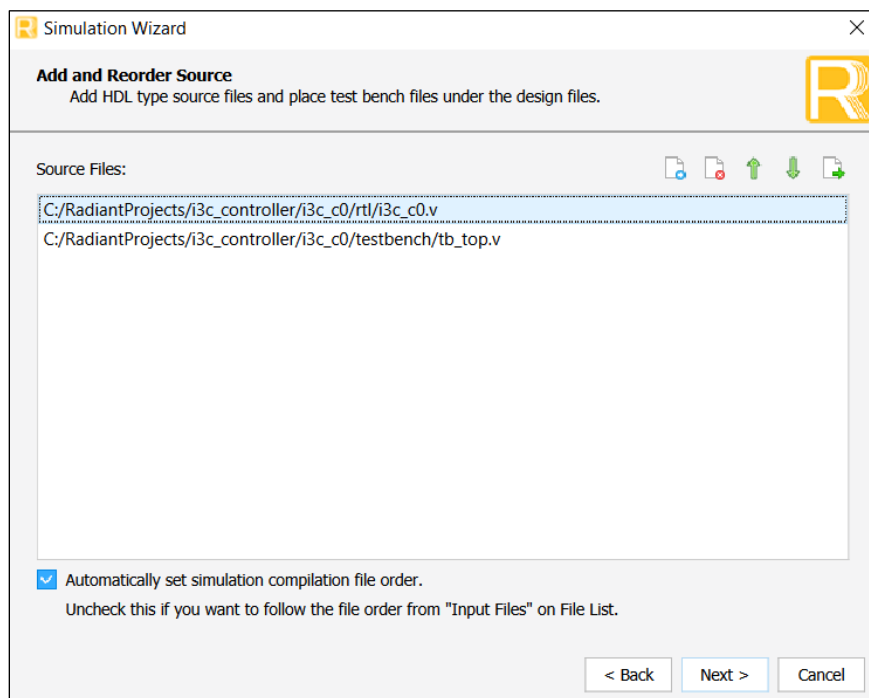

Figure 7.5. Add and Reorder Source
2. Click **Next** to open the **Add and Reorder Source** window as shown in Figure 7.5. Ensure that the generated *rtl/<component name>.v* and *testbench/tb_top.v* are the only **Source Files**. Remove other files if there are any.